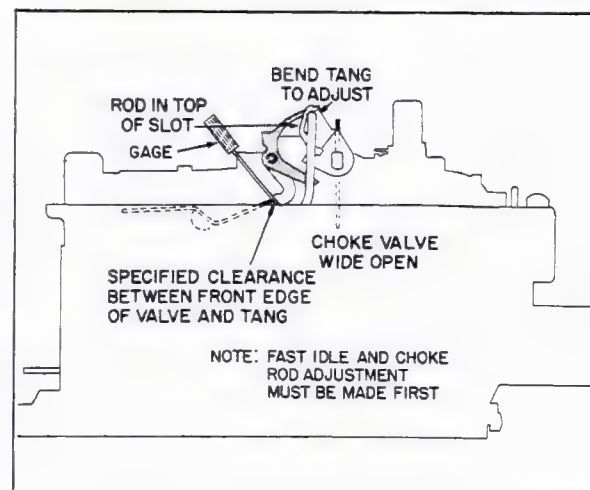

Fig. 6-83 Air Valve Lockout Adjustment
#### 86. Air Valve Lockout Adjustment (Fig. 6-83)
4. Bend upper end of air valve lockout lever tang, Fig. 6-83, if necessary, to give an opening of .015 inch between lockout tank and front edge of air valve.